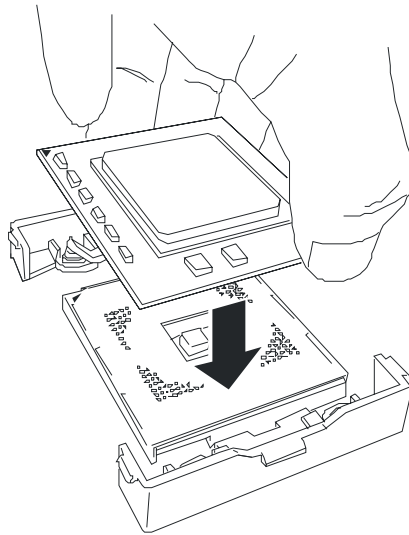

Figure 4-11. Installing the Processor
7. Position the processor over the processor socket so that its pins align with the socket holes. See Figure 4-11.